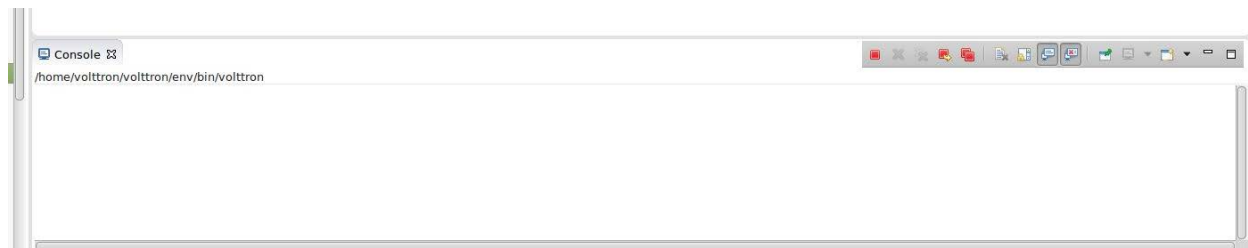

Figure 74: Running VOLTRON Platform, Console View on Successful Run
4. If the run is successful, the console should appear similar to Figure 74. If the run does not succeed (red text describing why the run failed will populate the console), click the all stop icon (two red boxes overlaid) on the console and then retry.